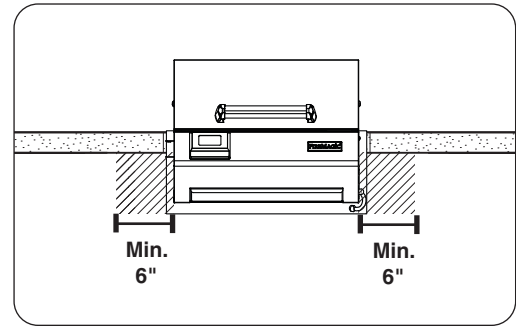

Fig. 10-1 Control panel clearances
- The control panel **MUST** have a minimum side clearance of 6" from any obstructions/side walls. See Fig. 10-1.